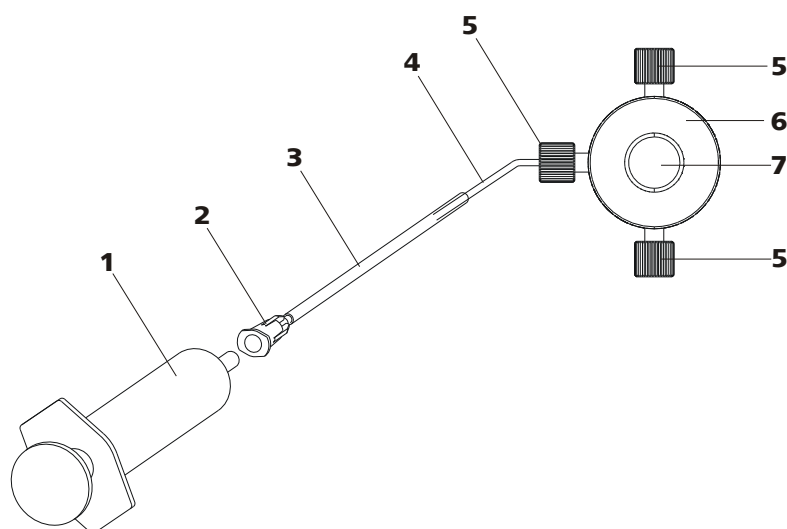

Figure 19 Deaerate the high pressure pump
Deaerate the high pressure pump as follows (see figure 19, page 36):
- Insert syringe (19-1) in the Luer connector (19-2) of the purging needle (see figure 19, page 36).